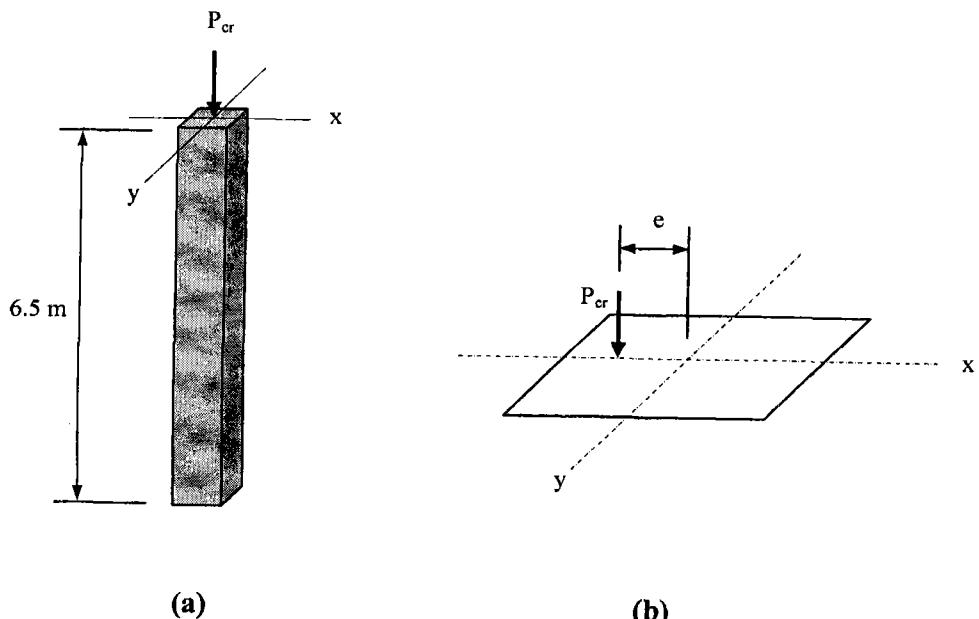

Figure 2 / Rajah 2
(b) A 6.5m long column having a square cross section of 300mm x 300mm is shown in Figure 2(a). Using the Euler's formula, determine the critical buckling load for the column for the following end conditions. Assume E = 200GPa.
- (c) Select any one of the end condition from question 2(b). If the steel column in Figure 2(a) must carry a load 20% higher than the critical load from the selected case, with an eccentricity, e , of 50mm as shown in Figure 2(b), check if the square section of 300mm x 300mm is safe to be used or not. Assume $E = 200\text{GPa}$, allowable stress for column subjected to concentrated load of 100MPa and allowable stress in bending is 150MPa. The following inequality equation is to be satisfied: